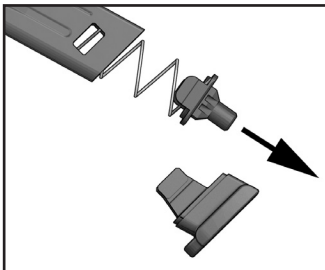

Figure 38
4. Gradually allow the locking insert and magazine spring to expand out of the magazine housing (see Figure 38).